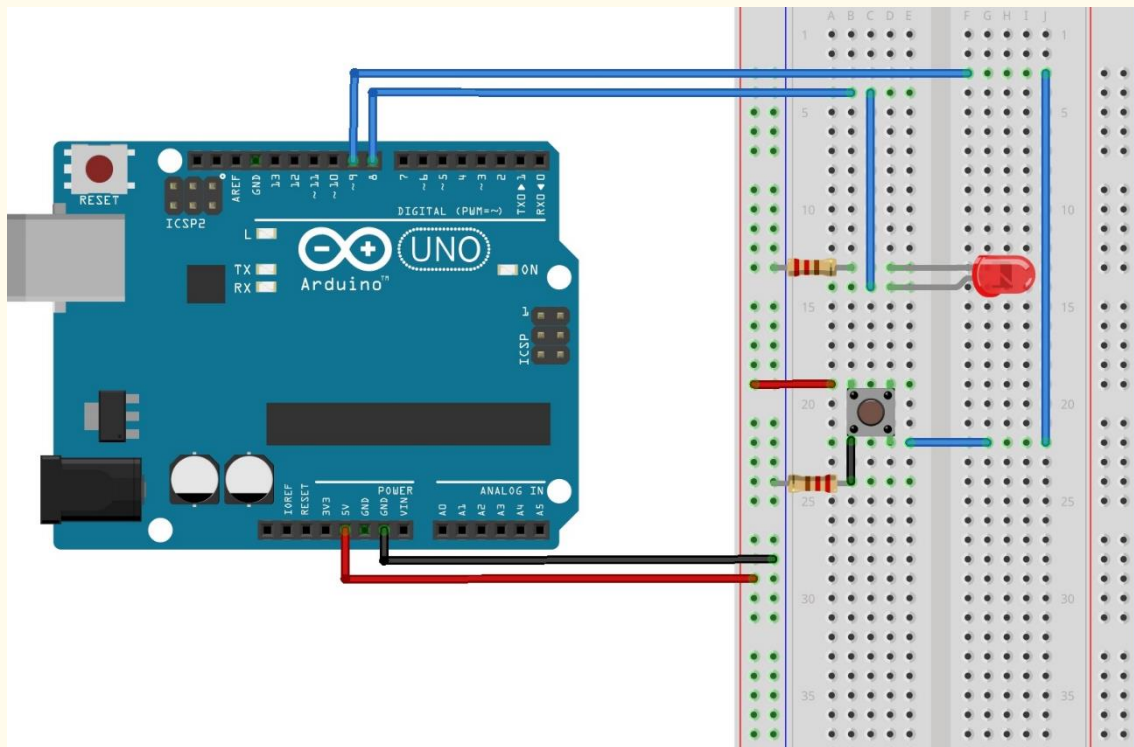

Figure 2 Turn On and Off a LED using a button (Source: <https://www.allaboutcircuits.com/>)
- Connect the 1K resistor, as shown in Figure 2, in the same row where the LED's long leg is attached.
- Connect one side of the 10k ohm resistor to the ground rail on the breadboard and the other side to the pushbutton in row 24 (as shown in Figure 2).